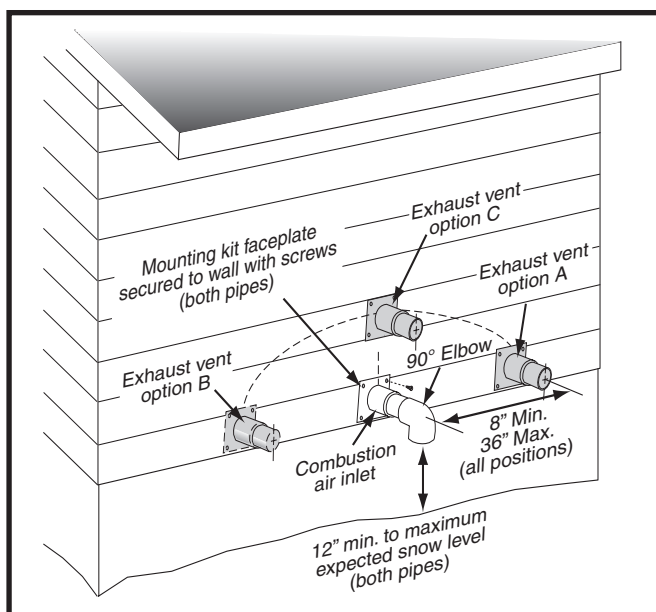
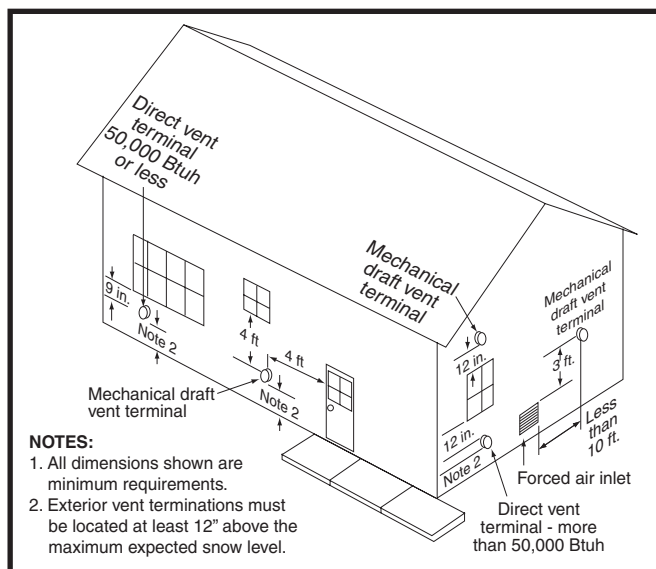
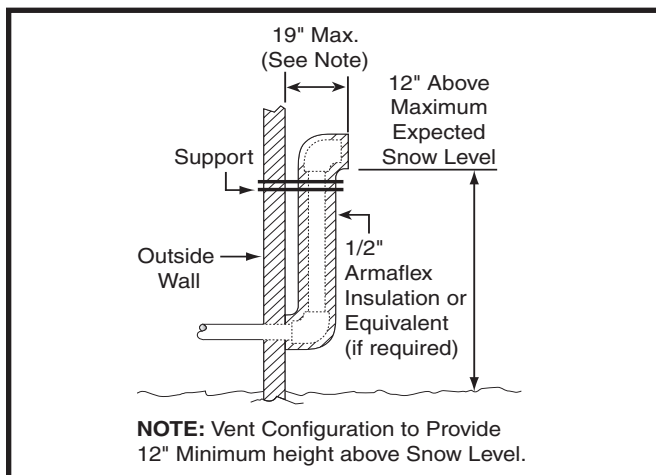
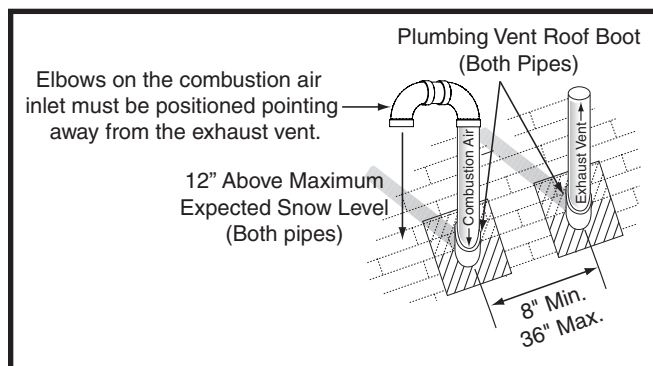

Figure 1. Inlet & Exhaust Pipe Clearances
Figure 2. Vent Locations
Figure 3. Alternate Horizontal Vent Installation
Figure 4. Vertical Vent Termination
- The combustion air intake and the vent exhaust must be located in the same atmospheric pressure zone. This means both pipes must exit the building through the same portion of exterior wall or roof as shown in Figure 1, Figure 2, Figure 4, and Figure 31.
- Vent and combustion air intake terminations shall be installed as shown in Figure 1, Figure 2, Figure 3, and Figure 4 in accordance with these instructions:
- All minimum clearances must be maintained to protect building materials from degradation by moisture content in flue gases. When wall venting on surfaces that could be affected by this moisture, it is recommended that a corrosion resistant shield be used behind the vent terminal. Adequately seal or caulk all joints, cracks, and seams around the vent terminal. (Figure 1)
- When the vent pipe must exit an exterior wall close to the grade or expected snow level where it is not possible to obtain clearances shown in Figure 1, a riser may be provided as shown in Figure 3. Insulation is required to prevent freezing of this section of pipe. See Table 4, for vent freezing protection.
Termination spacing requirements from the roof and from each other are shown in Figure 4. The roof penetration must be properly flashed and waterproofed with a plumbing roof boot or equivalent flashing. Vent and combustion air piping may be installed in an existing chimney which is not in use provided that:
- The termination clearances shown in Figure 4 are maintained.